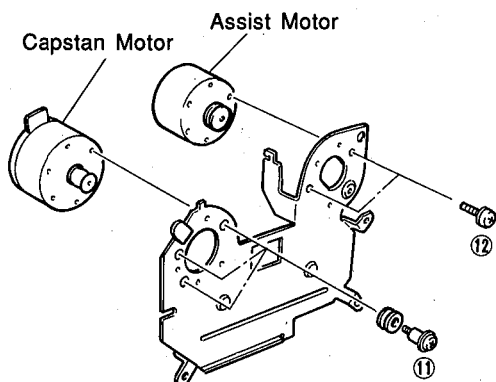

Fig. 6
- c. Remove 3 screws (11) in Fig. 6 and then remove the Capstan Motor.
- d. Remove 2 screws (12) in Fig. 6 and then remove the Assist Motor.